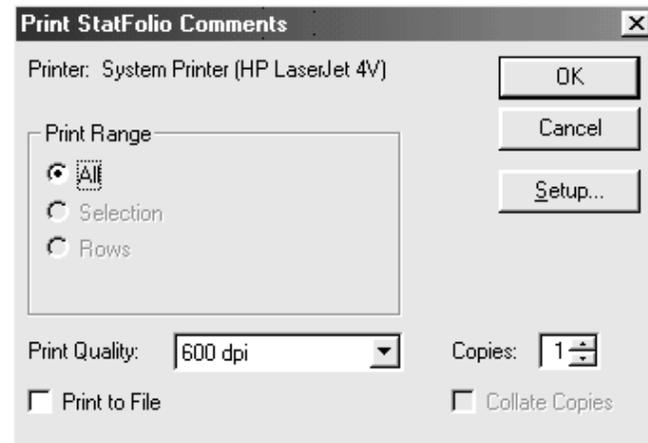

Figure 6-1. Print [StatFolio] Comments Dialog Box
2. Choose FILE... PRINT... from the Menu bar to display the Print StatFolio Comments dialog box (see Figure 6-1).